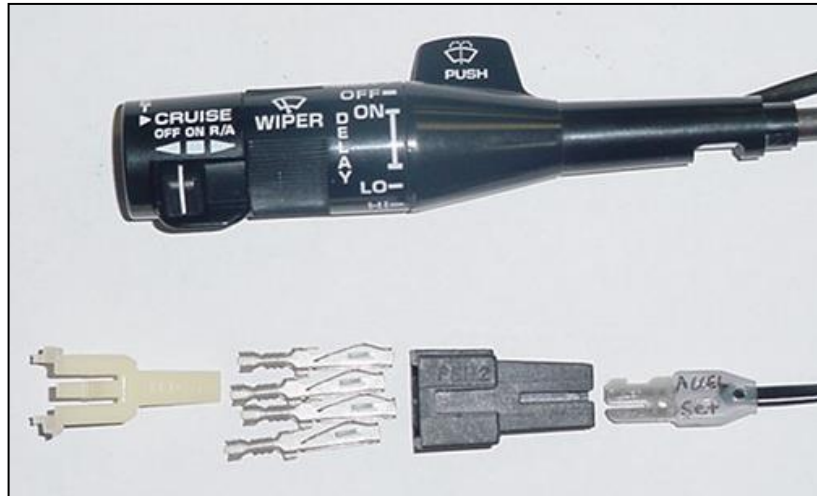

FIGURE 6.6 Cruise Control
- M. **Cruise Control:** There are four cruise control wires in this harness. Most late model GM steering columns years 1983-1993 already have or can be retrofitted with a cruise control switch. See **Figure 6.6** for the proper connection of these wires to a factory GM cruise control switch part number 25111262. This harness kit does not include the connector needed because it has been discontinued by Delphi. The Pink wire is power (connector pin A). The Gray wire is the *cruise control on* switch signal (connector pin B). The Blu/Wht wire is the *cruise control set/coast* switch signal (connector pin D). The Gry/Blk wire is the *cruise control resume/accel* switch signal (connector pin C).